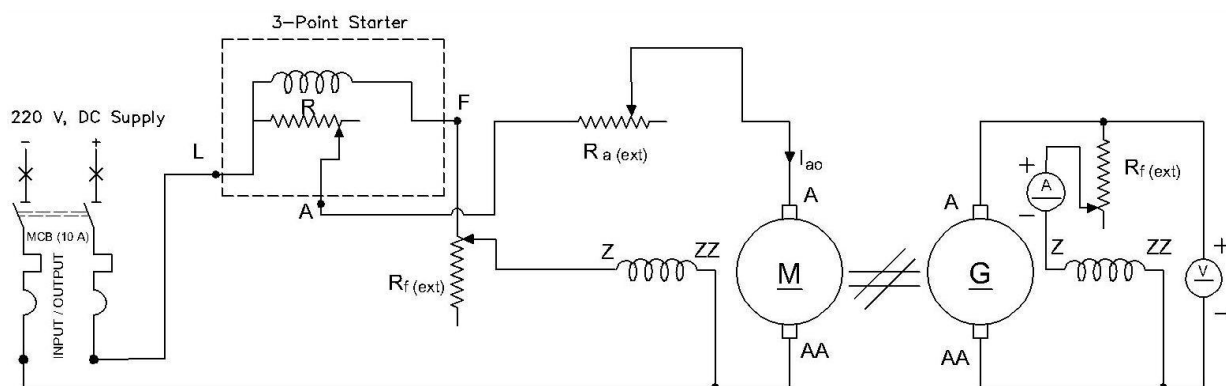

Fig.6.2
1. Connect as shown in Fig.6.2